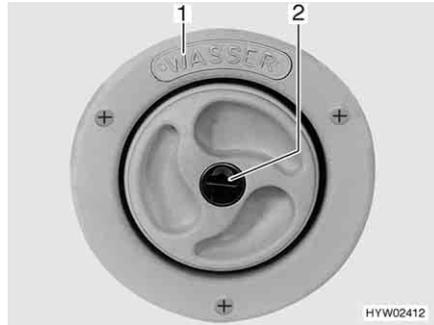
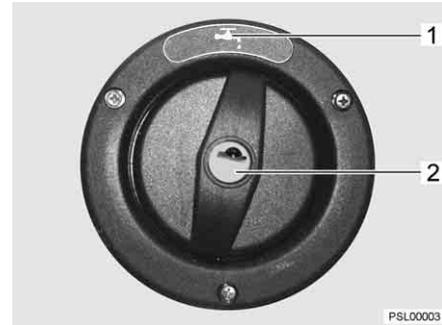

Fig. 31 Cap for the drinking water filler neck
Fig. 32 Cap for the drinking water filler neck (alternative)
- ▷ The drinking water filler neck is labelled by the word "WASSER" (water) (Fig. 31,1) or marked by the symbol "☕" (Fig. 32,1).
- Insert the key in the locking cylinder (Fig. 31,2 or Fig. 32,2) and turn it in an anticlockwise direction.